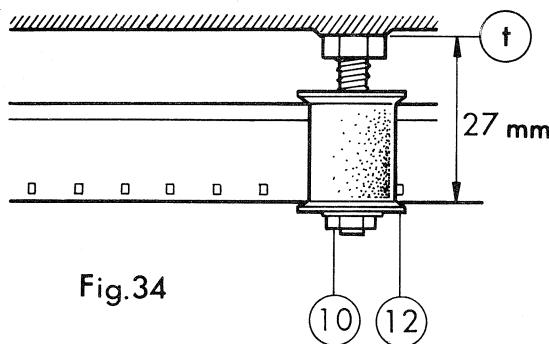

Fig.34
1. Make sure that ①, ⑫ and ⑭ have no scratches and that ④ and ⑥ have normal rotation before carrying out reassembly in the reverse order of disassembly.
2. Install ① to a position with minimum thrust, and tighten with ⑦ before fixing with the stop screw of ⑦.
3. The ⑫ not only retains the film traveling position in the sound PC board, but also works as the impedance roller. Hence, take utmost care when adjusting the fixing position of ⑫, keeping in mind that improper setting leads to unstable traveling of the film and directly causes deterioration in wow/flutter and other characteristics.
- Make adjustment, so that the space between the base frame surface (t) in Fig. 34 and the film perforation side surface is 27 mm. (See Fig. 34)